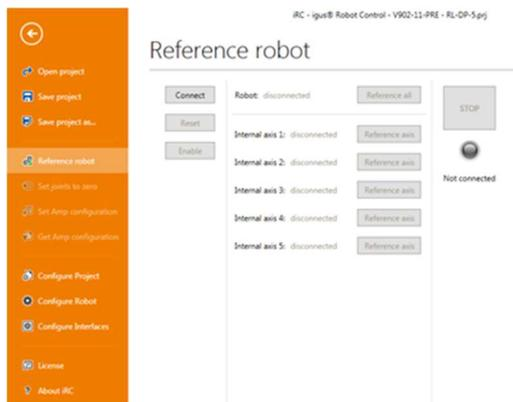

Figure 7.5 Referencing window.
5. Click the buttons to start referencing the axes, see Figure 7.5. Several joints can perform the referencing in parallel.